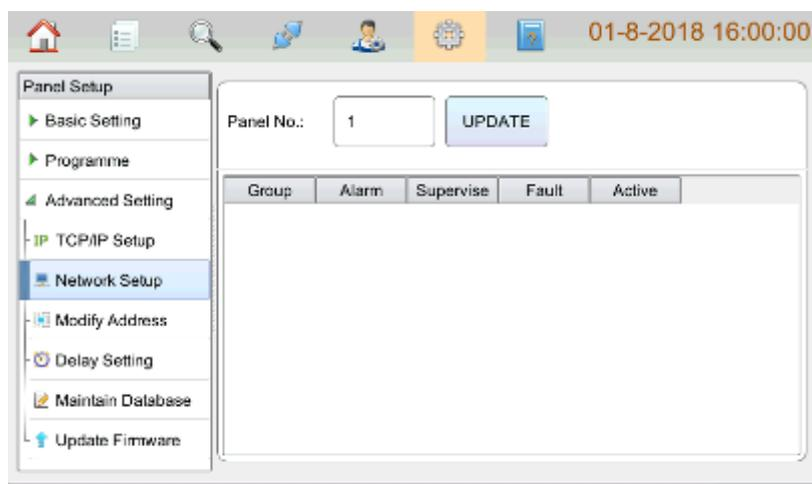

Fig 4.33
- Network Setup: clicking **Network Setup** in **Advanced Setting** menu pops up the screen for setting the network on the right. Users can set up based on actual situation. Refer to the figure below Fig 4.33.